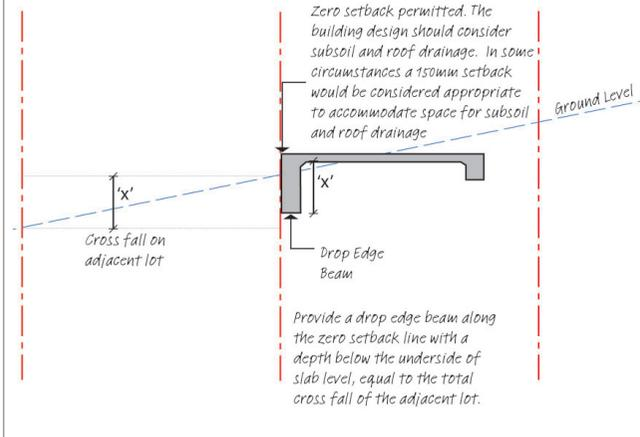
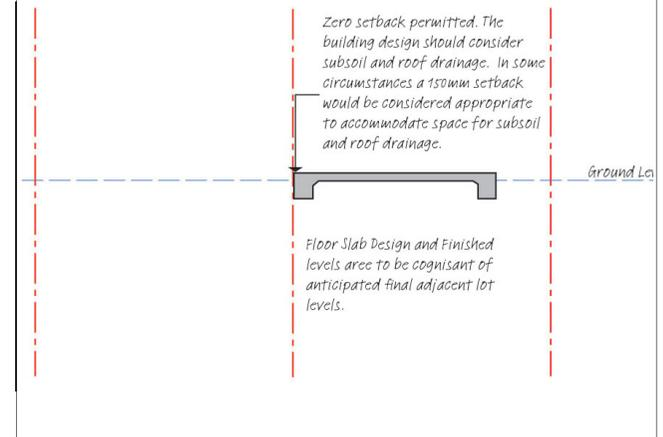

FIGURE 18: Zero Lot Line Construction Type 2
FIGURE 19: Zero Lot Line Construction Type 3
- be 0mm if site conditions and building design permit (Figure 18 and Figure 19);